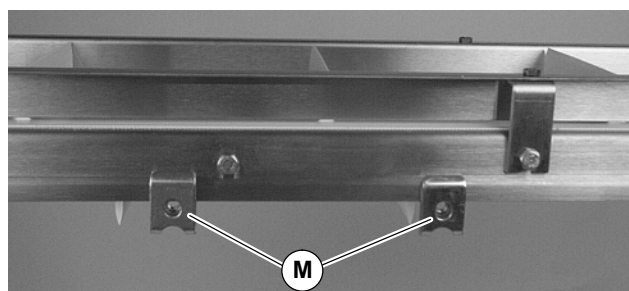

Figure 12
11. Attach mounting clips (M of Figure 12) to conveyor.